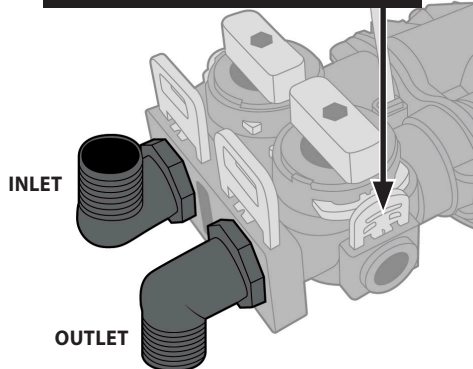

FIG. 5
- Attach the drain hose (15 ft included) to the drain fitting (FIG. 5) and secure it with a hose clamp (FIG. 6) (included).
- Attach the rest of the drain hose to the overflow fitting (FIG. 14) and run to the floor drain with an appropriate air gap, as shown in FIG 5. If you do not have any more drain hose left, you will need to purchase extra tubing at your local plumbing retailer.